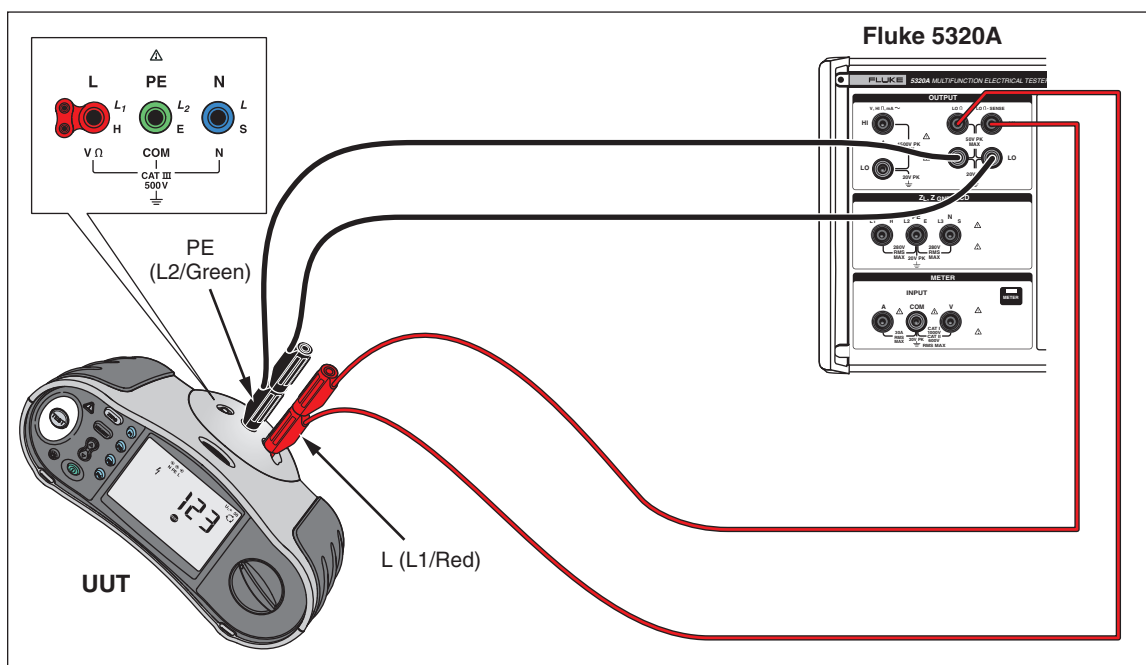

Figure 6. Continuity Tests (4-Wire Connection)
5. Connect the measurement test leads to the UUT L and PE input jacks in a 4-wire configuration as shown in Figure 6.
6. Connect the UUT test leads to the 5320A LO $\Omega$  Output terminals as shown in Figure 6.